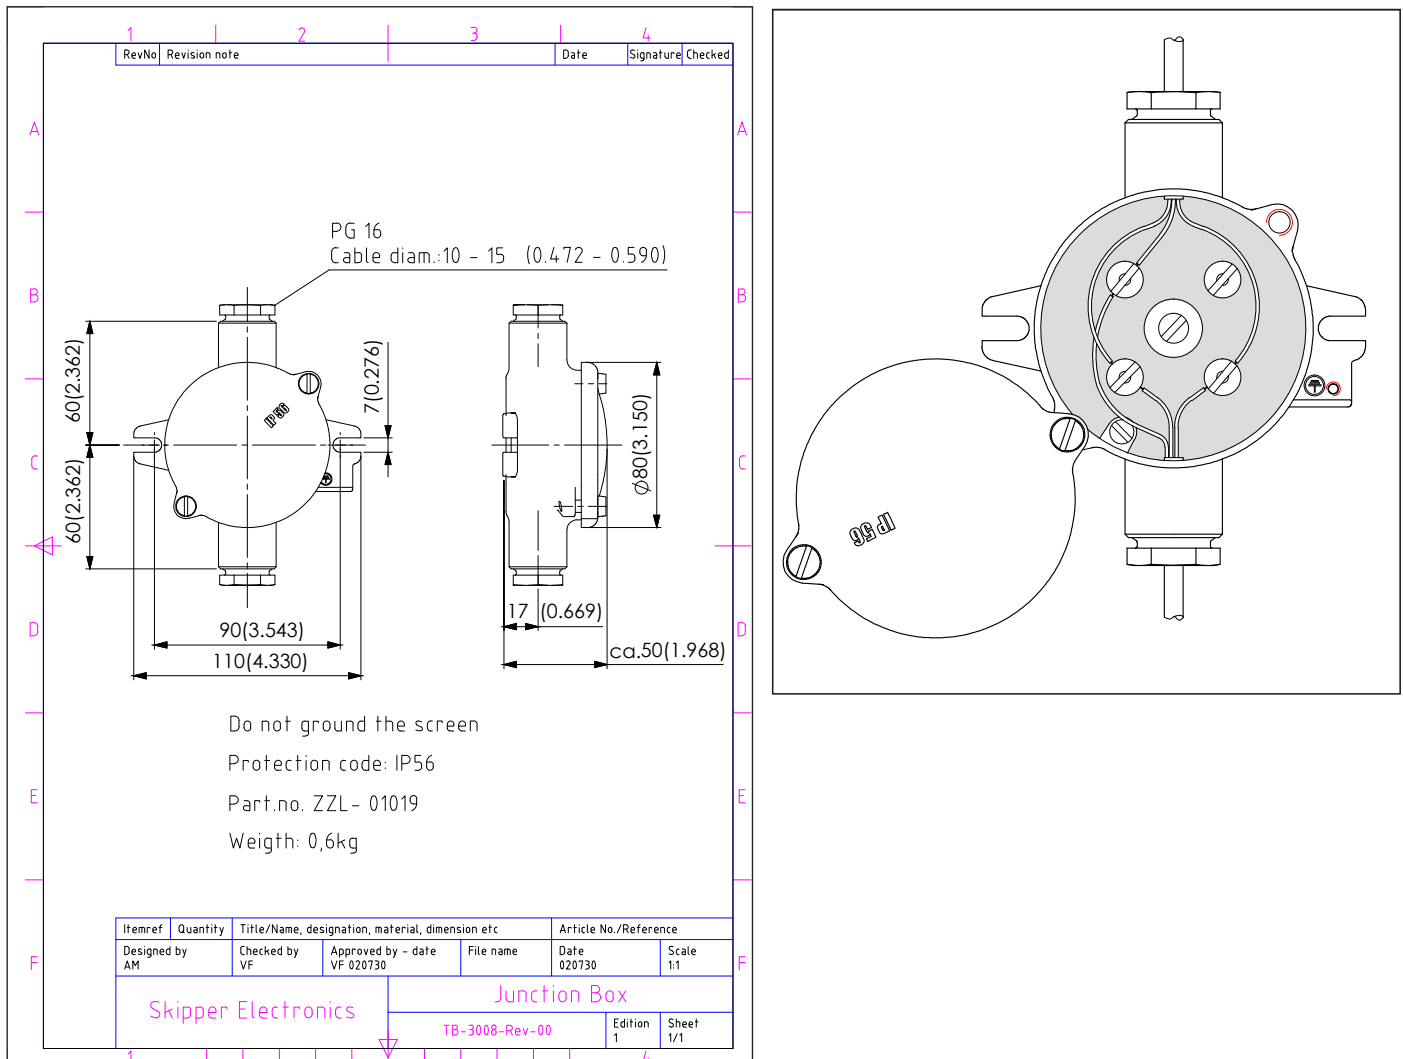

Fig. 4.2. Transducer Junction Box.
- Transducer junction box(es). See “Fig. 4.2. Transducer Junction Box.” on page 41.